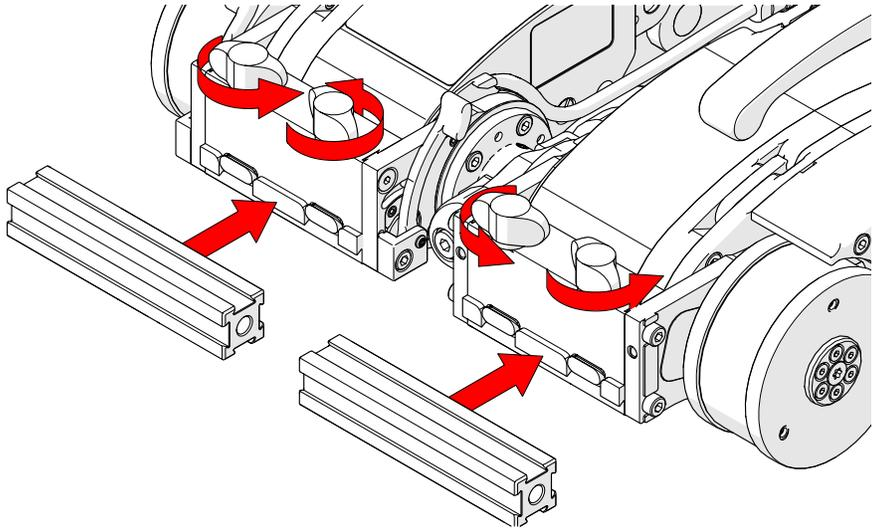

Fig. 27 - Mount frame bars to the swivel mounts
7. Loosen the black wing knobs to mount the frame bars to the swivel mounts (Fig. 27).